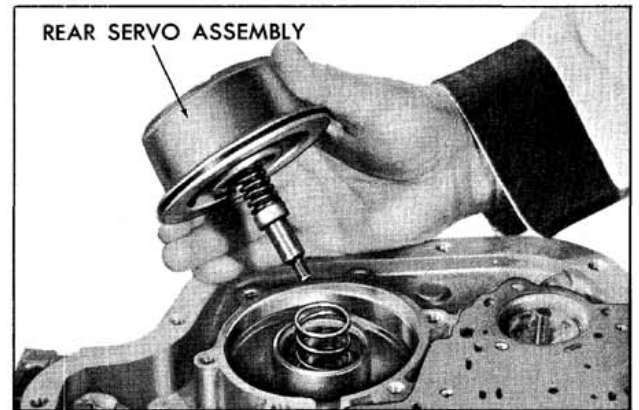

Fig. 6-43 Removing Rear Servo From Case
2. Remove the rear servo assembly from the case. (Fig. 6-43)